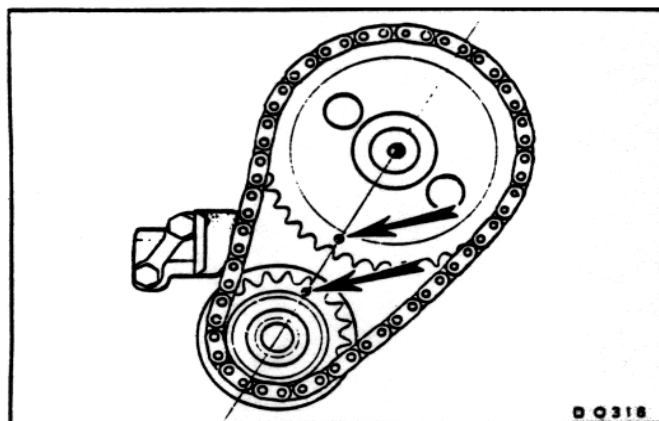

Fig. 1
8. Position the gear wheel timing marks as shown in Fig. 1.
- c. Assemble the chain wheels and chain to the shafts with the timing marks as shown in Fig. 1.